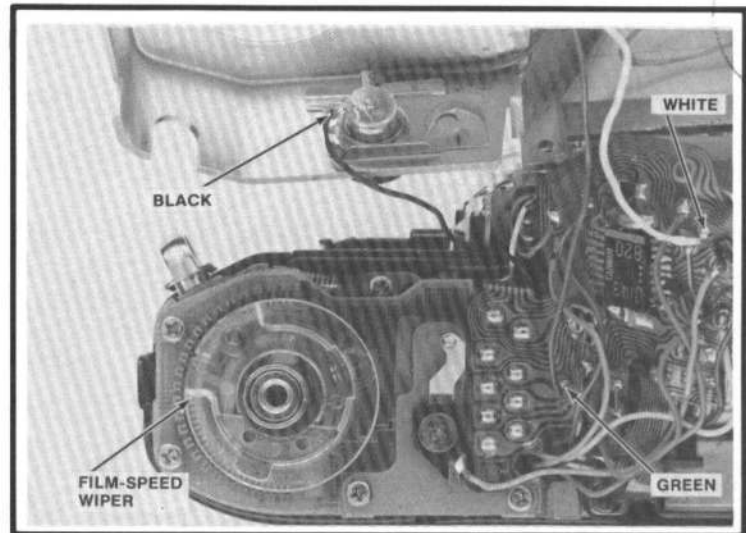
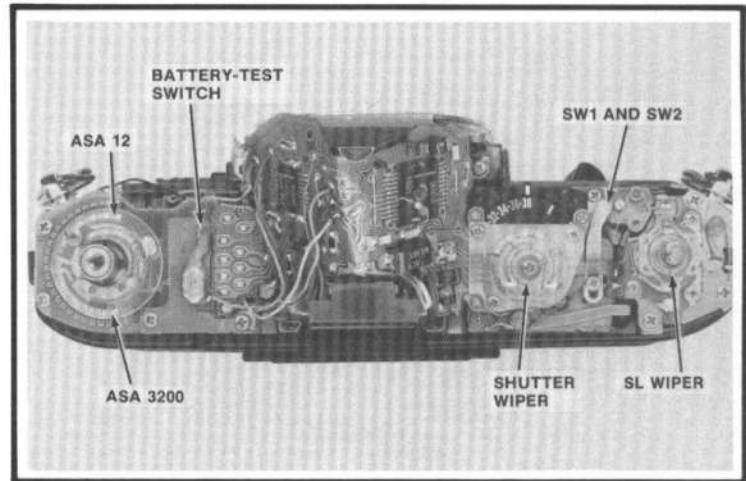
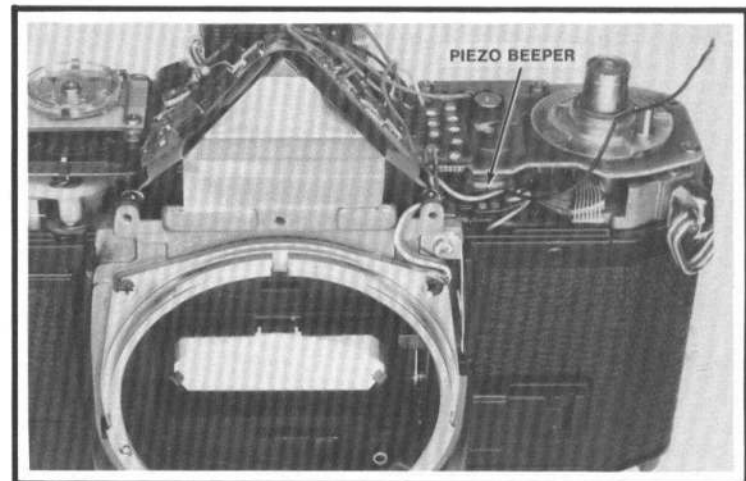

Figure 12
Figure 13
Figure 14
14. Unsolder the black wire from the P.C. terminal inside the top cover, Fig. 12.
15. Unsolder the green wire and the white wire from the flex, Fig. 12.
You can now replace the winding seat and the wind lever to operate the camera. To release the shutter, push down the two switches normally operated by the release button—SW1 and SW2, Fig. 13. Closing just SW1 should turn on the LED display.
Be sure to note the position of the film-speed wiper, Fig. 13, at ASA 100. You'll want the film-speed wiper at the ASA 100 position for the exposure adjustments. If you accidentally turned the film-speed wiper, you can find ASA 100 by locating the brush under the coupling pin. Turn the film-speed wiper until the brush rests on top of the first contact to the front of the camera—that's ASA 12. Now count the contacts as you turn the film-speed wiper counterclockwise. When the brush is on the tenth contact, you've set ASA 100.
Also note the position of the SL wiper, Fig. 13. The SL wiper has three positions—A (on), L (lock), and S (self-timer). Turning the SL wiper fully counterclockwise sets the A position. The camera should then operate. Turn the SL wiper one click stop clockwise for the L position. Here, the SL wiper disconnects battery power from the circuit; the LEDs will not turn on and the shutter will not release.
1. Set the shutter wiper, Fig. 13, to the program position—the slot in the shutter wiper then faces the front of the camera.
2. Solder the black, green, and white top-cover wires, Fig. 12. Route the black wire under the piezo beeper, Fig. 14. Route the green and white wires so they don't interfere with the film-speed wiper or the battery-test switch, Fig. 13.